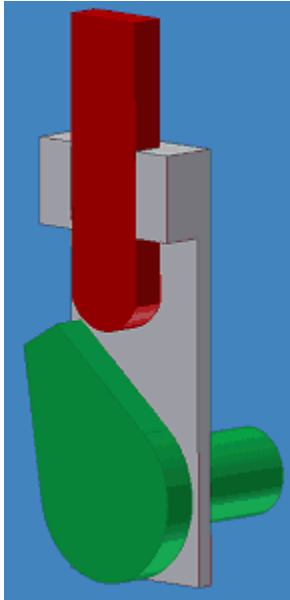

Figure 5: A sharp-cornered cam.
1. Open the assembly file BF-03-03.iam, which looks like Figure 5.
- The cam face can be any combination of lines and arcs. Sharp corners work, but as in the real world you will find that things work more smoothly if you add small radii on the corners. For example, the cam in assembly file BF-03-03.iam (see Figure 5) does not really have sharp corners. Open the cam part in file BF-03-Cam-03.ipt, suppress the fillets, and see how that affects assembly operation.